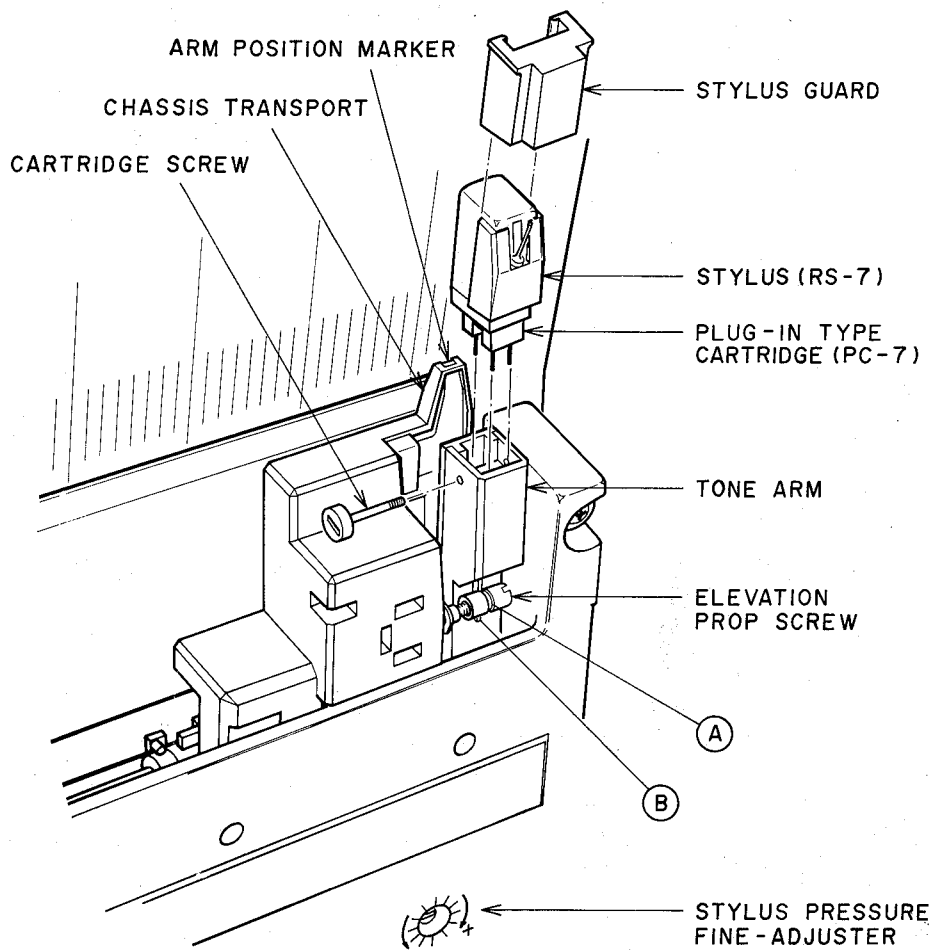

Fig. 6-1 Outside View of Moving Base Block
### 6-1. ORDINARY MECHANICAL ADJUSTMENTS (Refer to Fig. 6-1)
Pressure Fine-Adjuster located below the Tone Arm section shown in Fig. 6-1.
## 6-3. ARM ELEVATION POSITION ADJUSTMENT (Refer to Fig. 6-1)
- 1) This adjustment is not necessary unless the Arm Elevation (A) on Elevation Position Screw is replaced or mis-adjusted.
- 2) Hold the Tone Arm with the Chassis Transport and separate the Elevation Prop Screw from the Tone Arm. Then bring the Elevation Prop Screw close to the Tone Arm, and adjust the Elevation Prop Screw with a flat type screwdriver to the place where the position of the notch (A) on the Elevation Prop Screw coincides with the projecting part (B) on the Tone Arm as shown in Fig. 6-1.